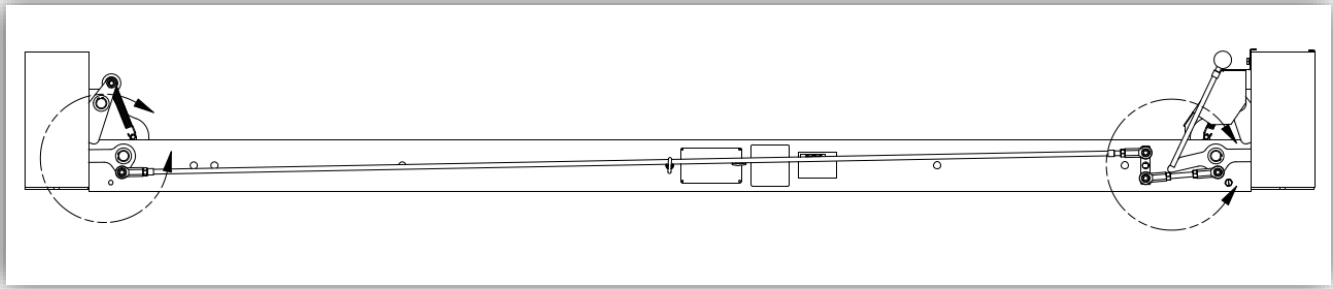

Figure 5.4
Select the (2) 3/8 long Round Rods (zip tied to the square rod in the power runway) and slide through the eyebolts (*Figure 5.4*). After installed, thread a 3/8-24 jam nut and hiem joint on either end of the rod.
Insert the opposite end of the all-thread assembly into the primary lock as shown (*figure 5.4 & 5.5*).